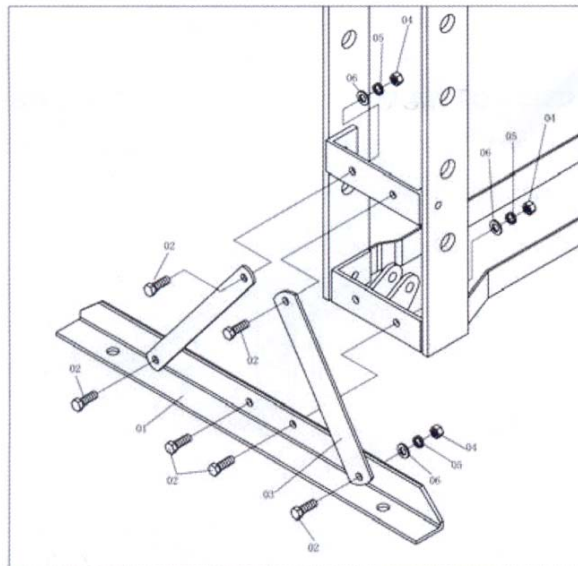

Figure 2
- **Attach the foot section (01) and support (03) to left and right connecting plate (30) using bolt (02), washer (06), lock washer (05) and nut (04).** (figure 2)